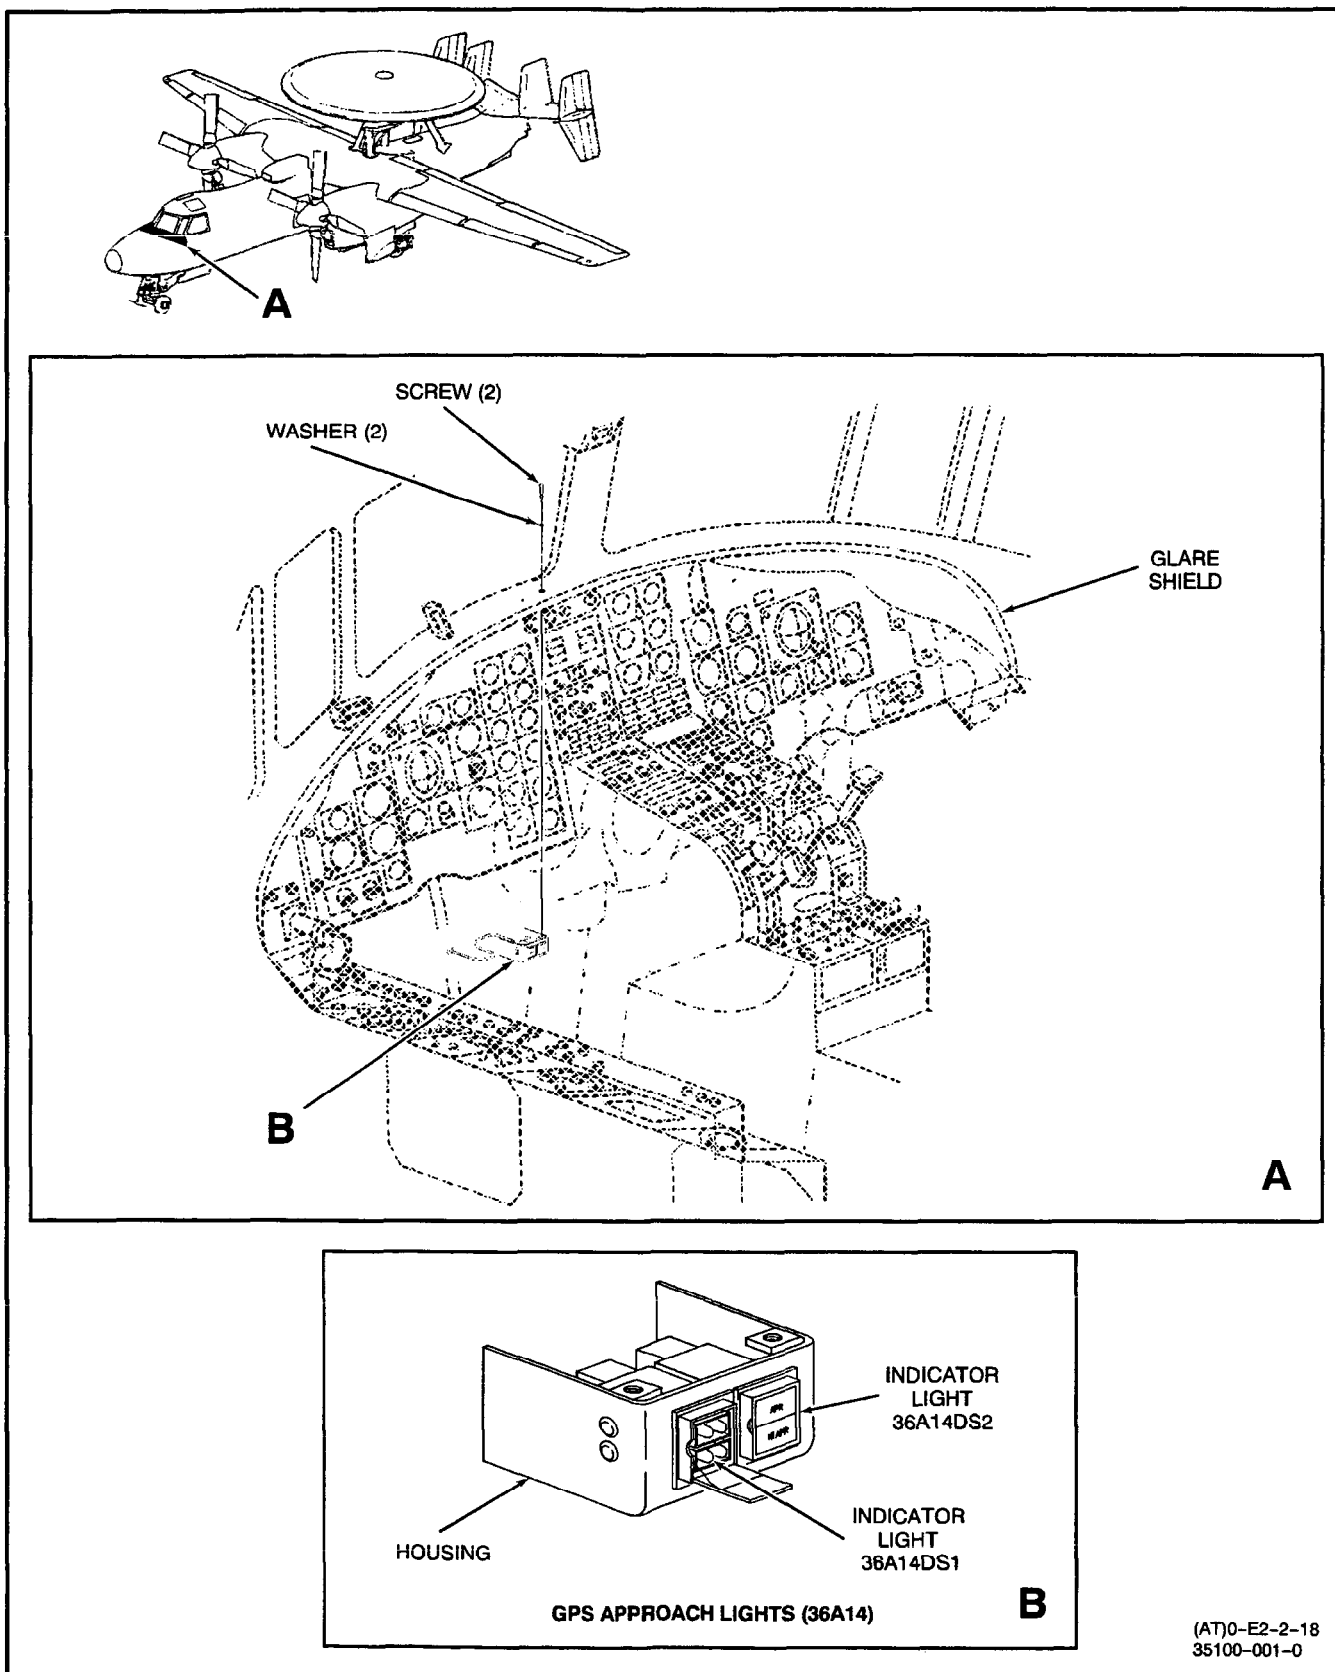

Figure 1. Removal and Installation of GPS Approach Lights Panel Assembly
2. The Global Positioning System (GPS) Approach Lights Panel Assembly, Part No. 123AV51128-3 (GPS approach lights) (36A14), is in the aircraft cockpit, pilot side, mounted under the glareshield. (See figure 1, detail B.)
5. REMOVAL. (Figure 1.)
6. INSTALLATION. (Figure 1.)